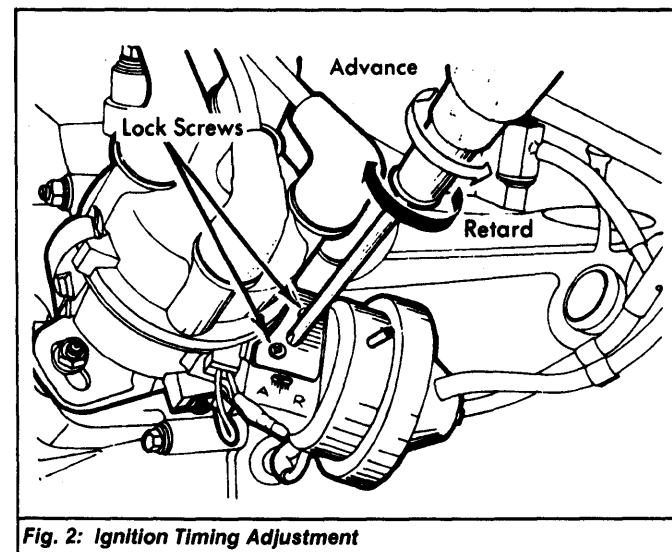

Fig. 2: Ignition Timing Adjustment
1974-75 - With engine at normal operating temperature, ensure point gap and idle speed are set to specification. Connect timing light to engine. Start engine. Use a Phillips screwdriver on timing adjuster and turn distributor as necessary to adjust ignition timing. See Fig. 2.
2) Start engine. Use a Phillips screwdriver or loosen distributor nut and turn distributor as necessary to adjust base ignition timing. See Fig. 2. On models with dual diaphragm distributors, reinstall rubber plug and check actual ignition timing.